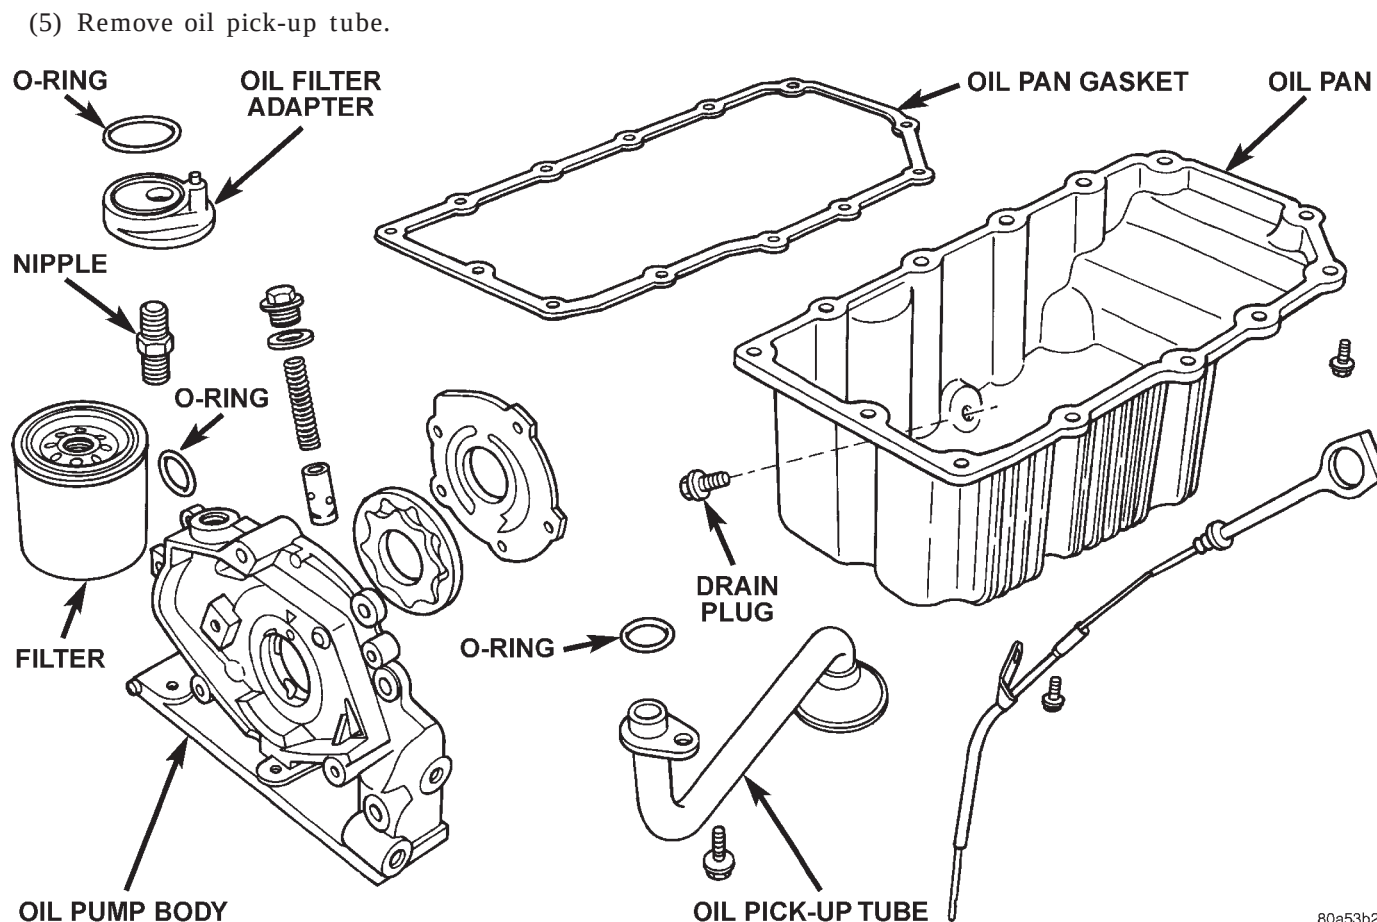

Fig. 83 Oil Pump and Tube
- (6) Remove oil pump (Fig. 83) and front crankshaft seal.